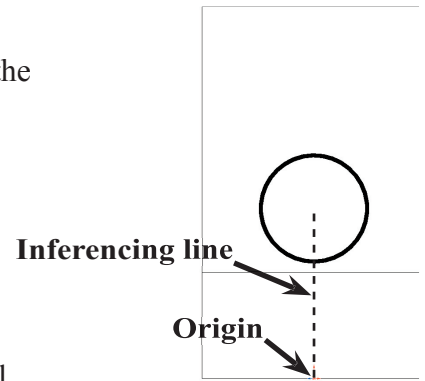

Fig. 8
Step 4. Click **Circle**  (S) on the Sketch toolbar.
Step 5. Draw a circle for the cartridge hole, Fig. 8. Use the vertical inferencing line, the dotted line that appears when you draw to
keep the circle directly above the Origin , Fig. 8.